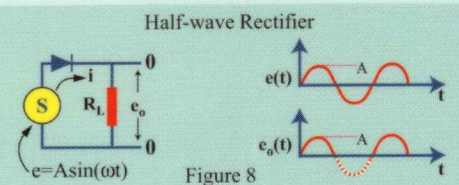

Figure 8
• **Rectifier:** A diode can be used to rectify the alternating current waveform (with bipolarity) to a one directional waveform. A simple **half-wave rectifier** is illustrated in Fig.8. The current flows through the load resistor  $R_L$  only during positive half-cycle as the diode conducts (forward biased). Hence voltage ( $e_o$ ) across  $R_L$  is one-directional or rectified.